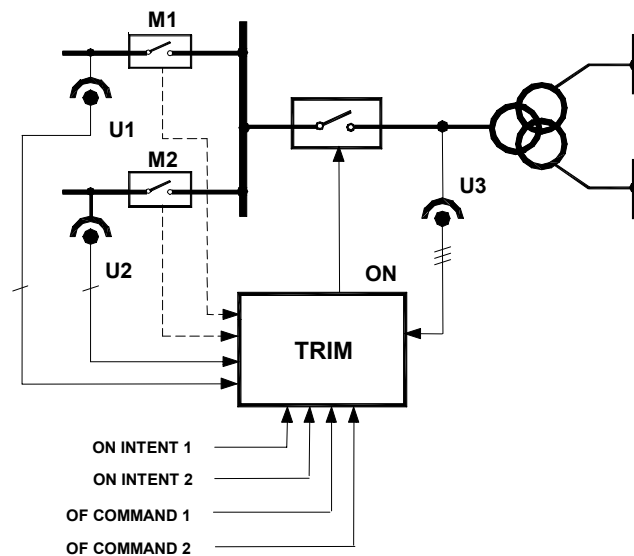

Fig 2. Application with measured voltage selection
- Automatic selection of measured VT signals (Fig.2)